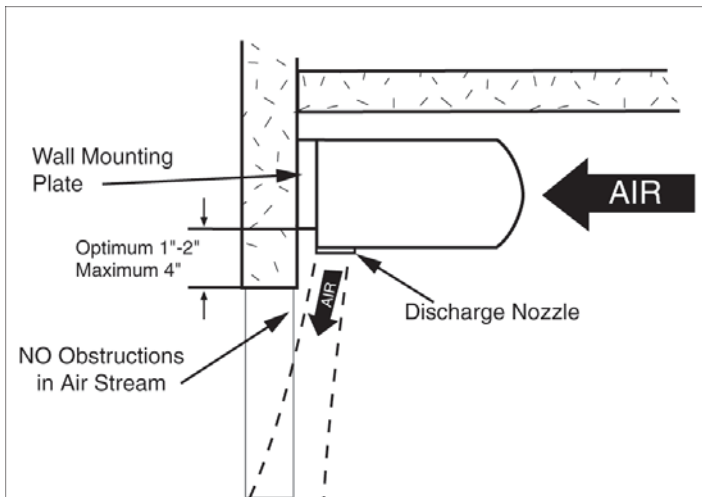

FIGURE 2 - Standard Wall Mounting
- D. Position the center of the wall mounting plate over the center of the door opening with the larger opening of the key hole slots facing up. For optimum performance, the bottom of the mounting plate should be *no more than 2"* or *less than 1"* above the top of the door opening. The wall mounting plate thickness provides a natural 3/4" space which allows for mounting it up to 4" above the opening. **See Figure 2**